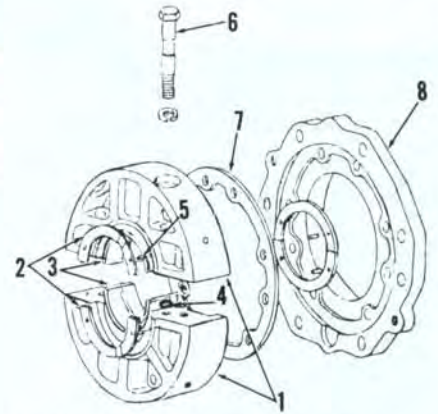

Fig. 42—Exploded view of rear main bearing housing and associated parts used on Model L260.
40. Rear main bearing housing is shown exploded in Fig. 42. Bearing housing halves bolt together around shaft, then bolt to rear bearing case cover (8). Be sure sealing "O" ring (4) is in position in oil passage. Dowels (5) which position crankshaft thrust washers (2) must be fully seated and must not extend through washers to scratch shaft when installed.